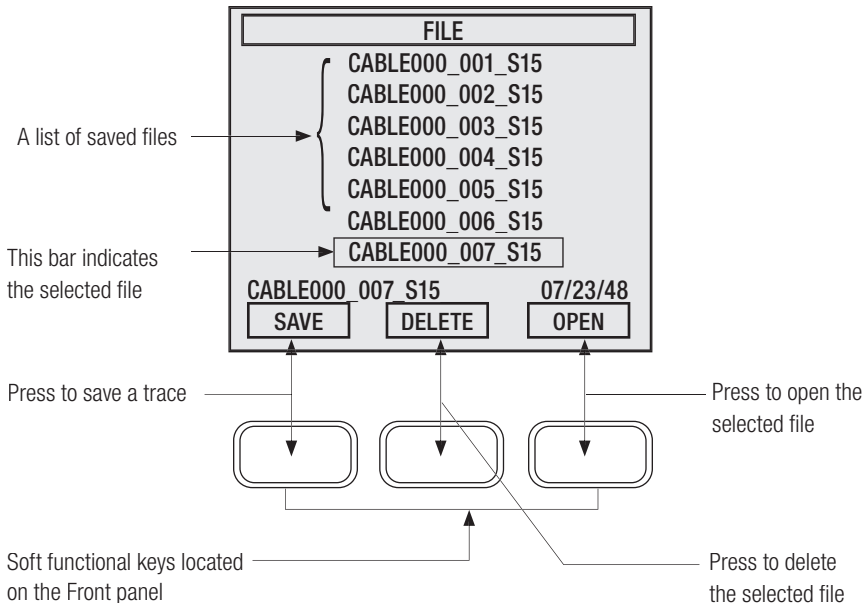

Figure 5-3. File screen.
- 1 From the [Setup] screen, press the [File] soft key to display the [File] screen (refer to Figure 5-3).